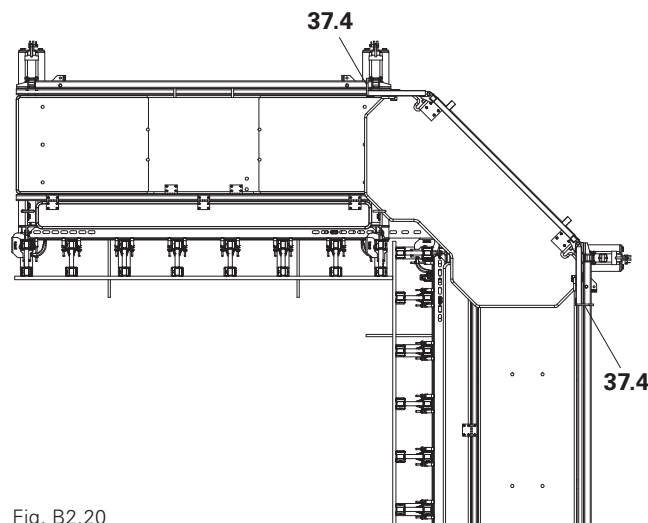

Fig. B2.20
3. Attach to neighbouring platform on both sides using the telescopic handrail hooks (37.4). (Fig. B2.20)